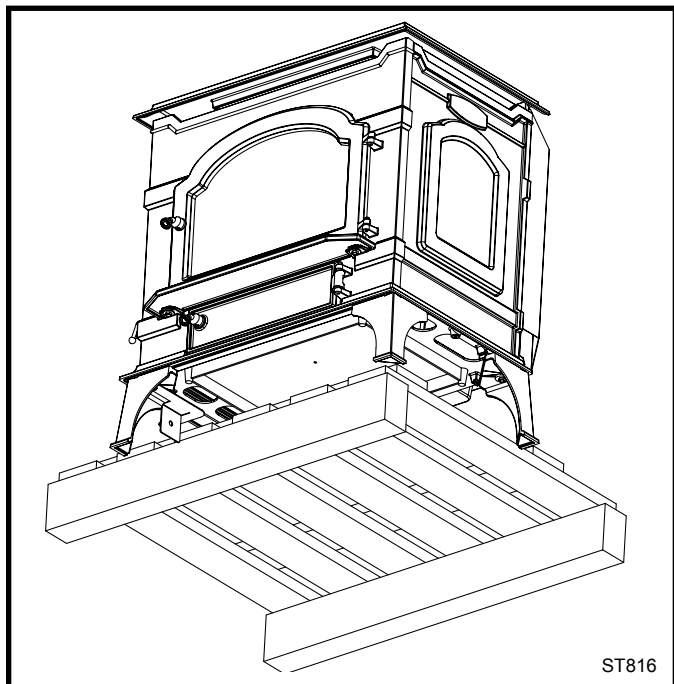

Fig. 26 Reposition stove so one rear leg can be attached.
7. Reposition the stove so the first rear leg can be attached. Attach the leg using the procedure described in Step 6. (Fig. 26)
9. Remove the (4) 1/4-20 x 3/8" hex head bolts from the mounting bosses and attach the bottom heat shield using the same bolts.